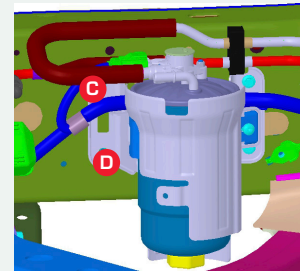

FIGURE 4A
- 2 Remove left hand two OE filter factory M6 x 25 bolts from point C & D as per FIG. 4A.
- 3 Loosen the three clamps marked 1, 2 and 3. Loosen the factory fuel hose quick connectors E & F and take out the fuel supply line from the tank to the factory filter. Have a rag ready to capture any diesel that may spill out of the fuel line and the fuel filter inlet pipe as per FIG. 4A & 4B.